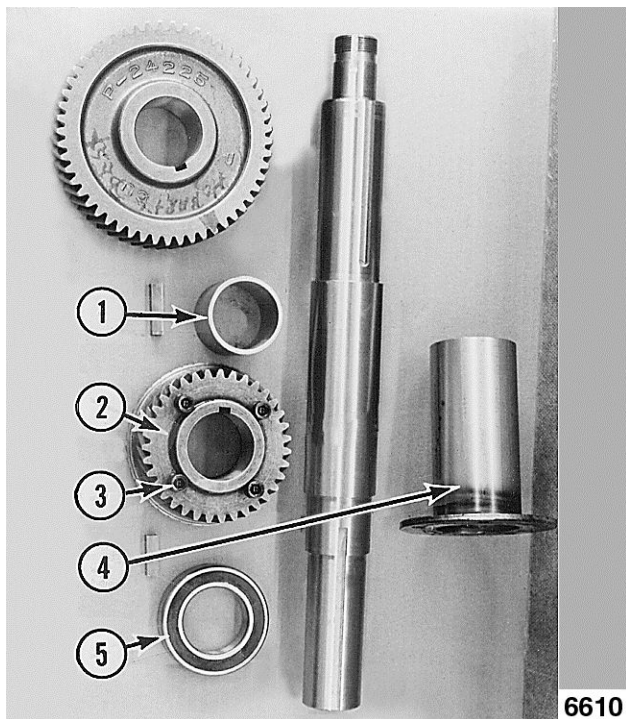
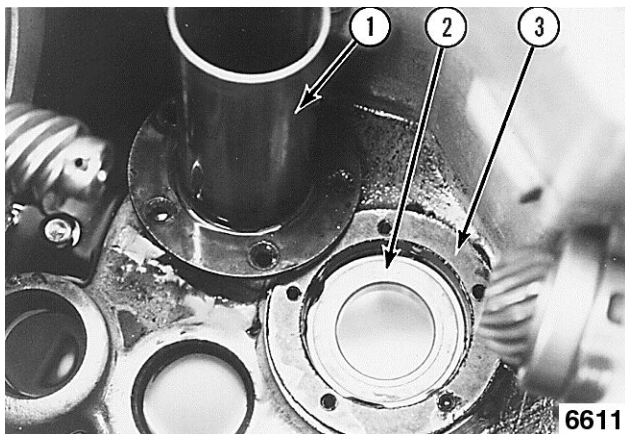

Fig. 70
Fig. 73
4. Remove the spacer [1] Fig. 70.
5. Remove the lower gear and spiral bevel gear [2] Fig. 70. Be careful not to lose the key.
NOTE: The lower gear and spiral bevel gear may be separated by removing the four socket head screws and lock washers [3] Fig. 70.
7. Remove the chimney [4] Fig. 70.
8. Extract the lower bearing [5] Fig. 70 from its seat in the transmission housing [2] Fig. 73.
1. Place the lower bearing in its seat in the transmission housing [2] Fig. 73.